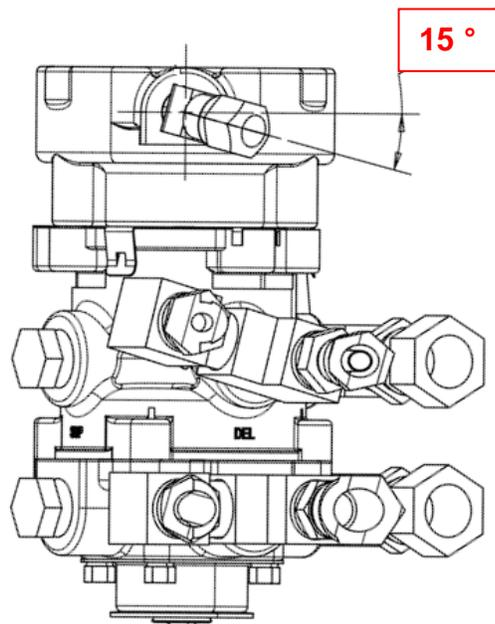

Figure 9: Align the 45 Degree Elbow
24. Install the 45 degree elbow previously removed in step 22 at the BVA port, see Figure 9.
25. Align the elbow as shown in Figure 9 (15 ° relative to BVA mounting surface).